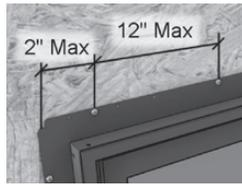

Figure 5
- (Required)** Complete the fastening by placing fasteners in the provided nail fin holes, spaced a maximum of 12" apart and 2" from the ends (**Figure 5**).